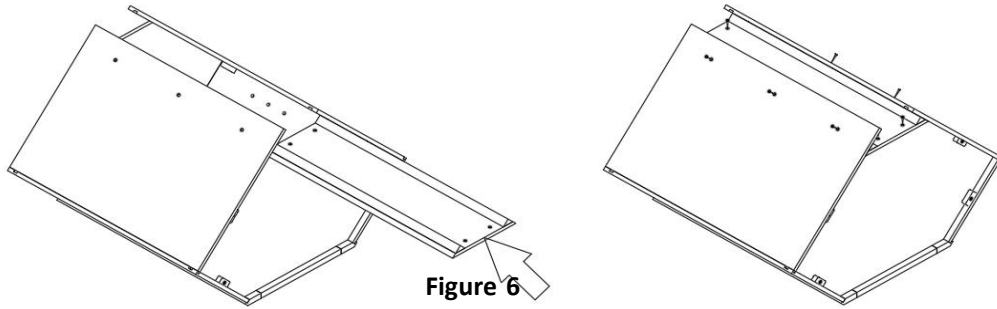

Figure 6
5. **Installing the Back Panel:** Insert and slide the back panel (**E**) into the groove in the rear of the side panel (**B**) (**Figure 6**). Align the back panel (**E**) and enforce it with 1 " Back Panel Screws into the pre-drilled holes on the back panel